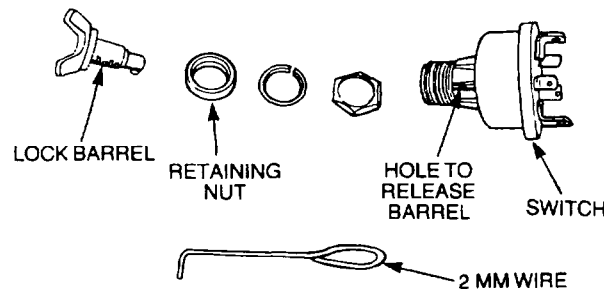

Figure 165 Ignition Switch Exploded View
- f. Using a length of 2 mm thick wire, insert the wire in the hole located in the lower part of the switch (Figure 165). Depress the lock barrel plunger and withdraw the lock barrel.